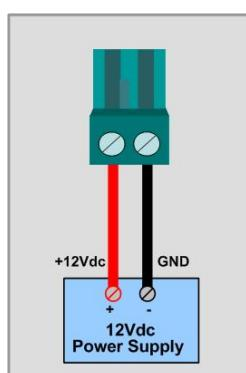

Figure8. Power Supply-2
- ② As shown in Figure 8, connect it to power.